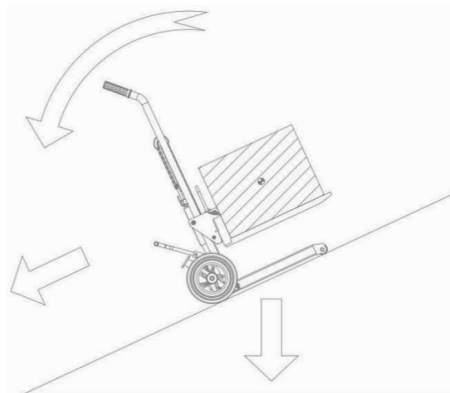

Figure 2
2. When carrying a load uphill, attention should be paid to reducing both the fork-lifting height and the load weight to prevent accidents. (See Figure 2)